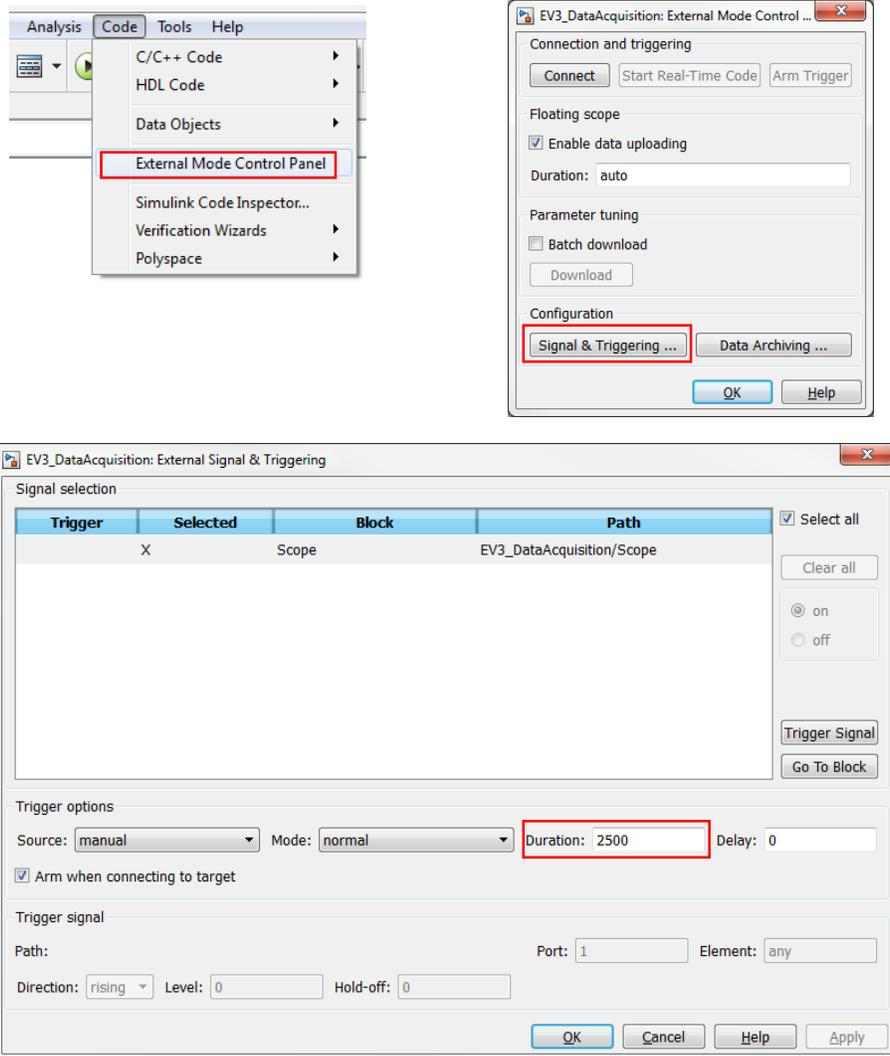
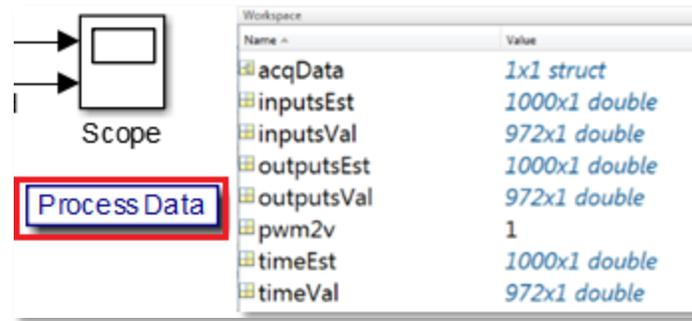

Figure 36 – Set up External Mode parameters
Figure 37 - Process Data, MATLAB Workspace – Acquired Data
4. Once the model has finished running, click on the **'Process Data'** button (Figure 37) in the Simulink model and you will see two MATLAB figures with the acquired data that shows the estimation and validation data sets. This is also available in the MATLAB workspace as variables as shown in Figure 36.